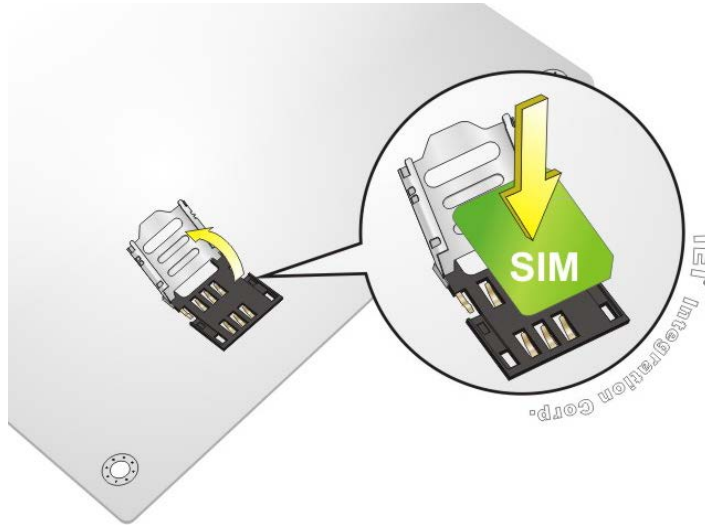

Figure 4-12: SIM Card Installation
Step 3: Open the slot cover and place a SIM card onto the slot. The cut mark on the corner should be facing away from the slot as shown in **Figure 4-12**.